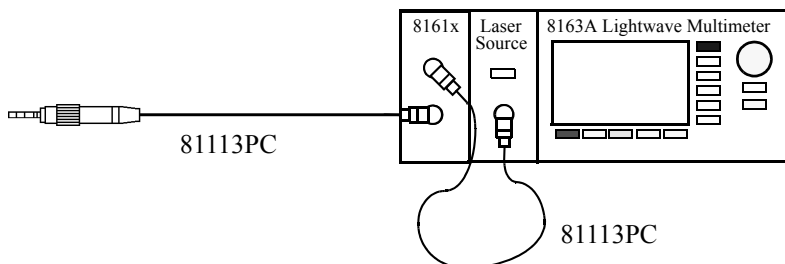

Figure 8 Return Loss Measurement Setup - External Source used
- 1 Making sure all the connectors are clean, set up the instrument as shown in **Figure 8** if you are using an External Source,